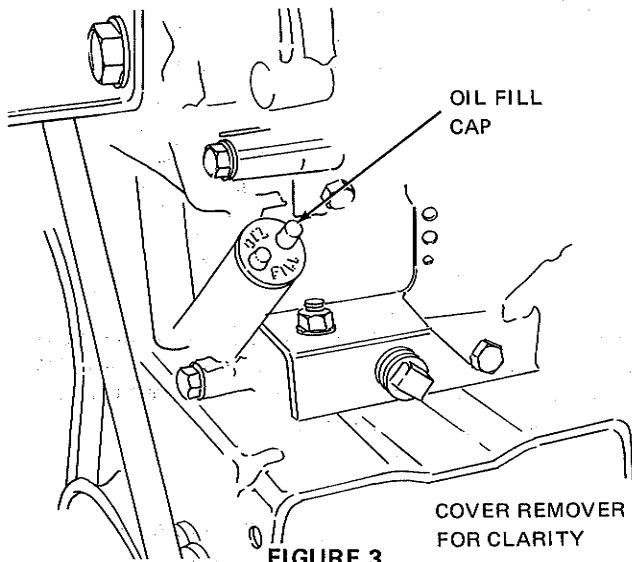

FIGURE 3
1. Remove the engine crankcase filler plug by turning counterclockwise. (Figure 3) The plug is located at the rear left side of the engine. Fill the crankcase with 10W-30 grade MS oil until level with the top of the filler neck. Wipe up any spilled oil. Reinstall the filler cap securely. **CHECK THE OIL LEVEL EVERY TIME FUEL IS ADDED.**